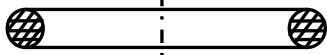

Figure 11
38. Identify the element of figure 11 below